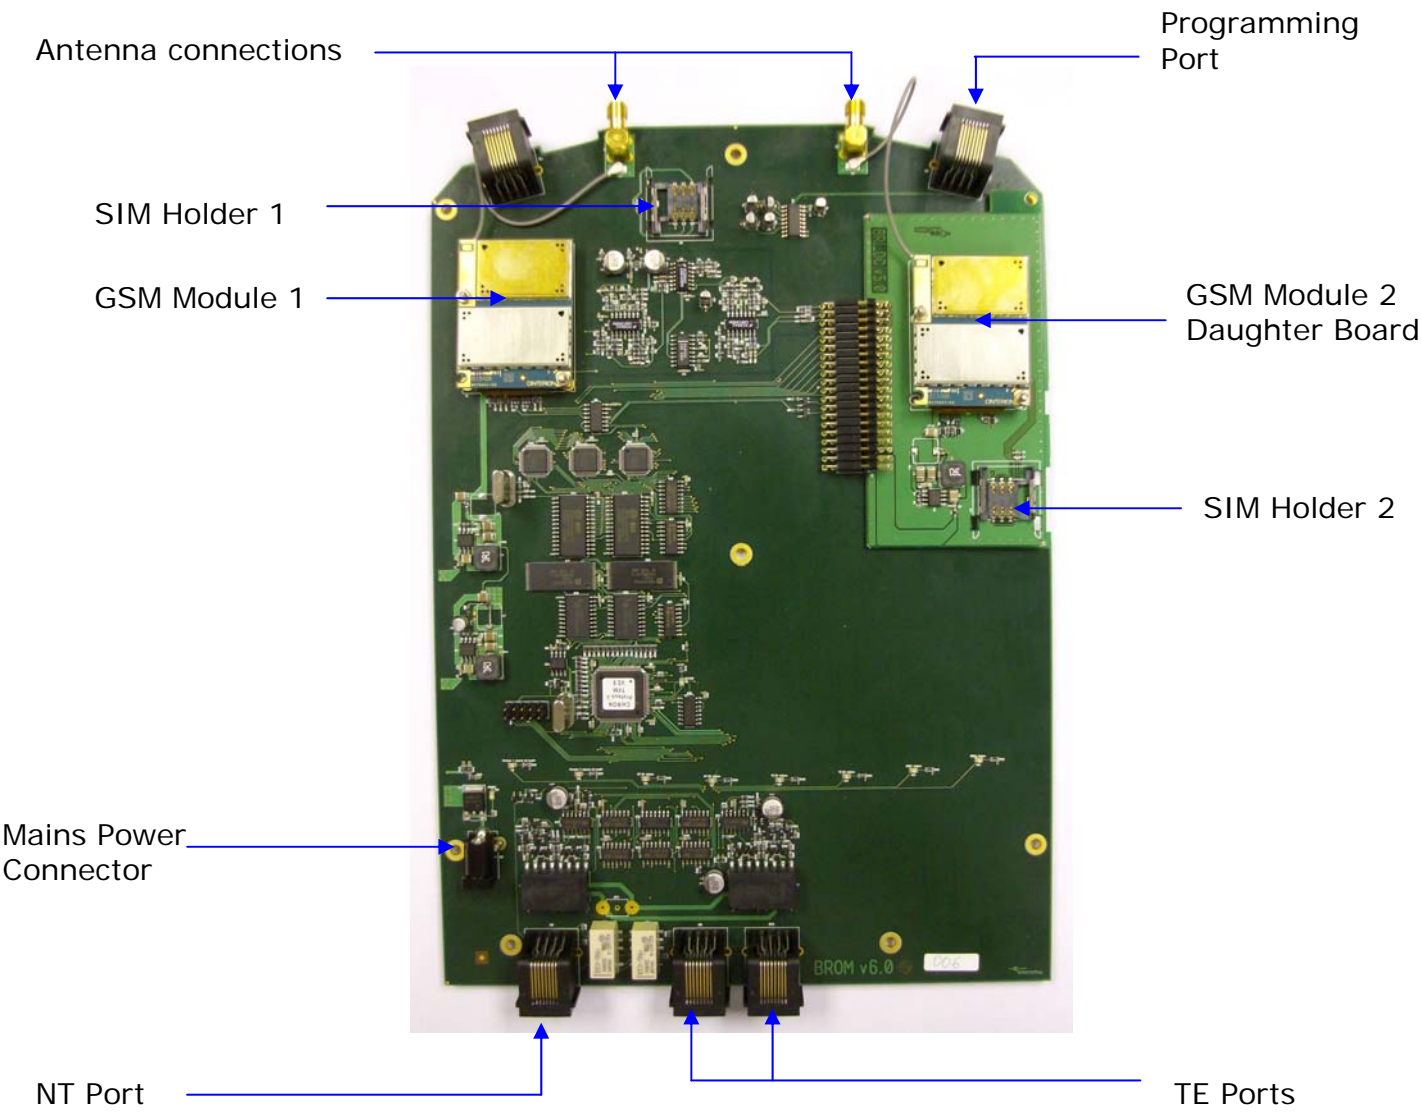

Figure 1
3. Insert SIM cards into the SIM holders (see figure 1 page 8)